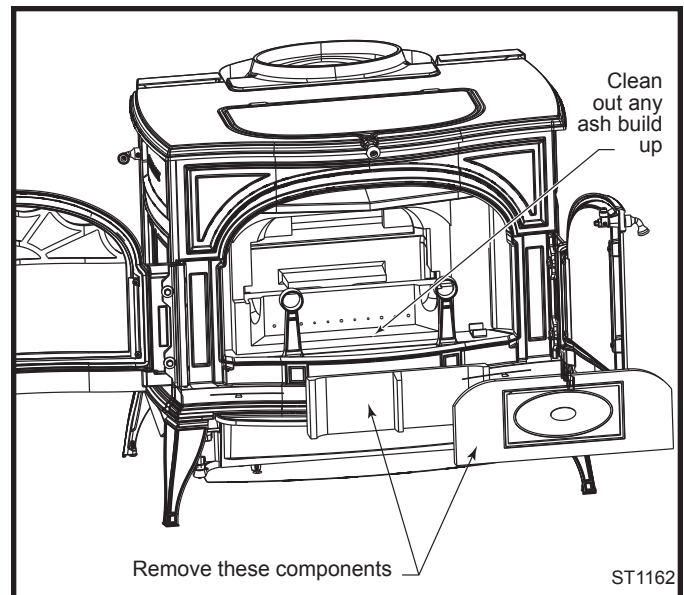

Fig. 46 Inspect and clean out ash accumulation behind the combustion system.
- Inspect for and remove ash build-up behind the combustion package. This should be done in conjunction with annual cleaning of the chimney connector. Inspect the passage behind the combustion package (a mirror will be helpful) and vacuum away ash using a flexible vacuum hose inserted in the passage. (Fig. 46)